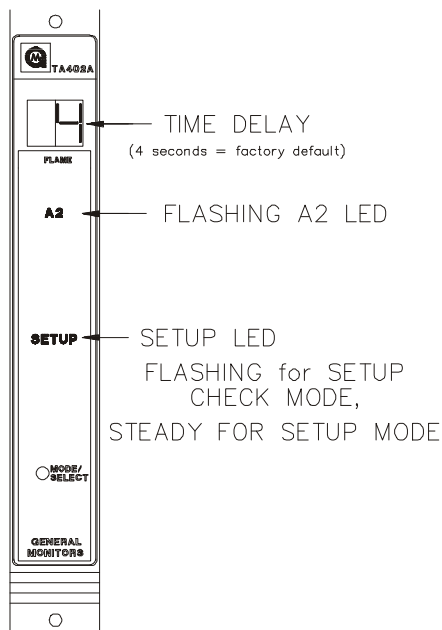

Figure 18
- The last A2 alarm option to appear on the display will be the alarm time delay. If the A1 alarm is activated continuously for the amount of time specified by this option the A2 alarm outputs will activate. The display will indicate the current A2 alarm time delay in seconds (figure 18). Press the Mode/Select switch repeatedly, until the desired A2 alarm time delay (1, 2, 4 or 8 seconds) appears on the display. **4** is the factory default for this selection.